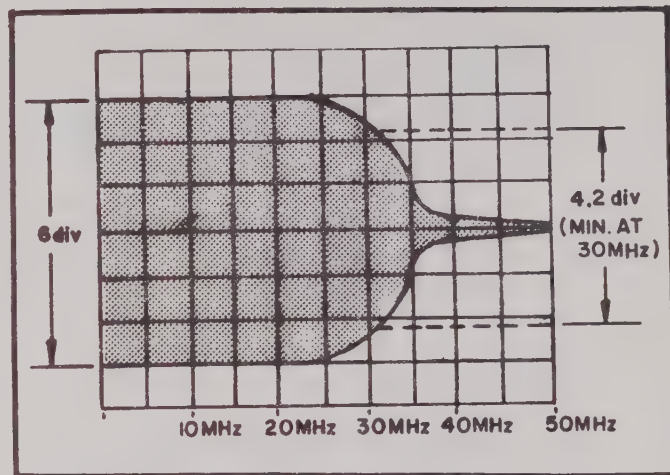

Fig. 27. Frequency Response Display.
5. Disconnect 100 kHz square wave generator and connect rf output of sweep generator to CH B input. Set generator to sweep from 1 kHz to at least 30 MHz (20 MHz for Model 1525) with frequency markers each 5 MHz. A display similar to Fig. 27 should be displayed for Model 1530. For Model 1525, there should be at least 4.2 divisions at 20 MHz. Set sweep generator level for 6 divisions amplitude at lower frequencies. Repeat adjustments of step 4 for smooth roll off at higher frequencies and amplitude of at least 4.2 divisions (-3 dB) at 30 MHz for Model 1530, 20 MHz for Model 1525.